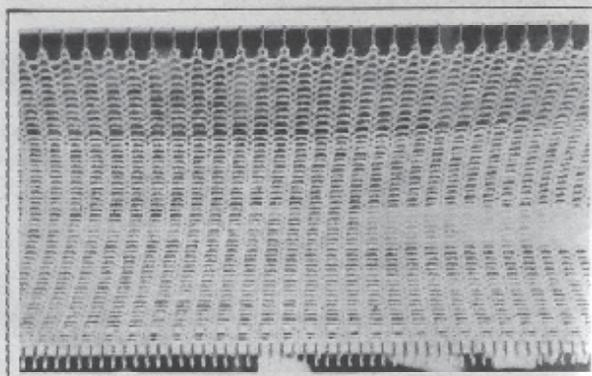

Fig. 2
4. Set Stitch Adjustor Dial at 3 and knit until twice the depth required has been knitted. (Fig. 2)